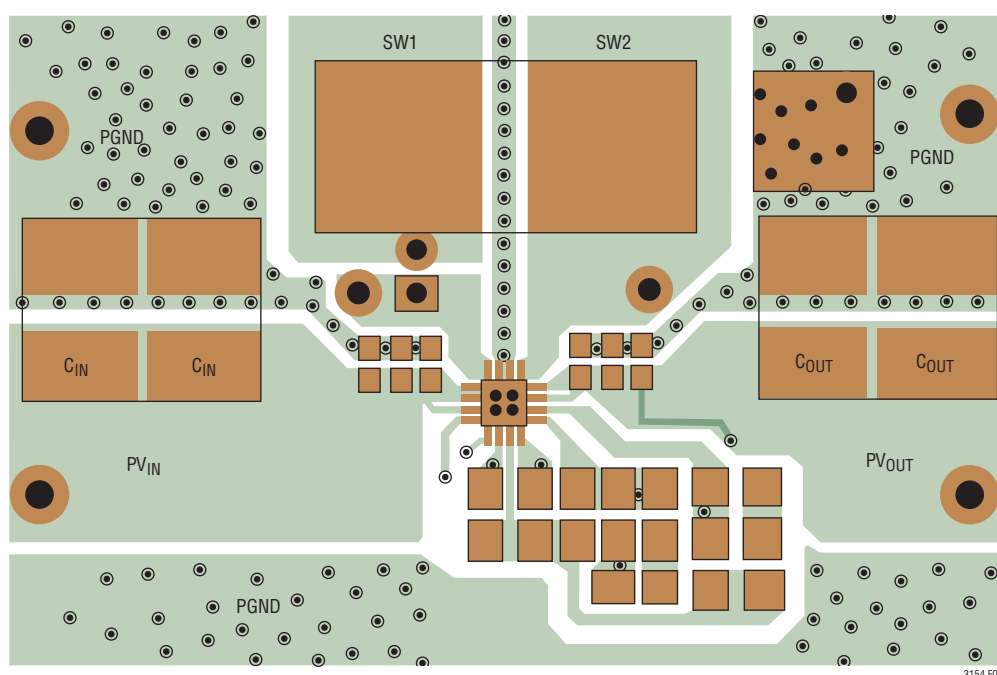

Figure 4. Example PCB Layout, Top Layer is Shown, Bottom Layer is Mostly PGND Plane
die attach pad connection underneath the IC package to other PCB layer(s) containing large copper planes. A recommended board layout incorporating these concepts is shown in Figure 4. Typical temperature rise versus load current curves using Figure 4 PCB are given in the Typical Performance Characteristics section.
The LT3154 switches large currents at high frequencies. Special attention should be paid to the PCB layout to ensure a stable, noise-free and efficient application circuit. Figure 4 presents a representative PCB layout for the LT3154 to outline some of the primary considerations. A few key guidelines are outlined below:
1. All circulating high current paths should be kept as short as possible. This can be accomplished by keeping the routes to all bold boxed components in Figure 4 as short and as wide as possible. Capacitor ground connections should via down to the ground plane in the shortest route possible. The bypass capacitors on PV_{IN} and PV_{OUT} to PGND should be placed as close to the IC as possible and should have the shortest possible paths to ground. These connections should be made as wide as possible to reduce the series resistance. This will improve efficiency and maximize the output current capability of the buck-boost converter.